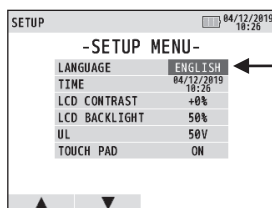

Fig. 6-2
- (1) Press F4 "SETUP" while the start-up screen is displayed (approx. 2 sec.) after turning on the instrument.
- (2) SETUP screen appears. (See Fig. 6-2.)
- (5) Press ENTER when settings are done. Then the screen returns to the SETUP MENU screen as Fig. 6-2. Press ESC to cancel the changes.
- (6) Pressing ESC on SETUP MENU screen (Fig. 6-2) gets the instrument in stand-by mode.